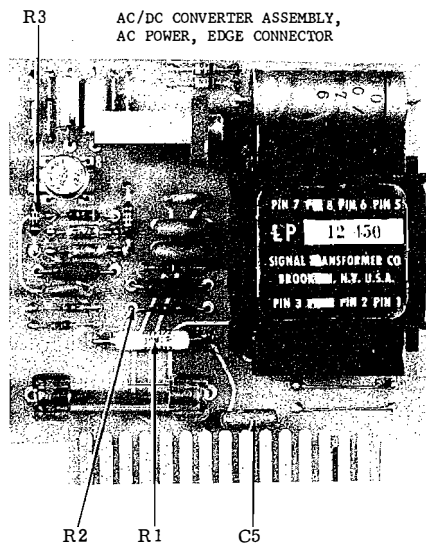

Figure 5. Component Location
6. Install resistors and capacitor specified in Table I to attain desired range. See figure 5 for component location. Note that these components should be installed in the upper printed circuit board.